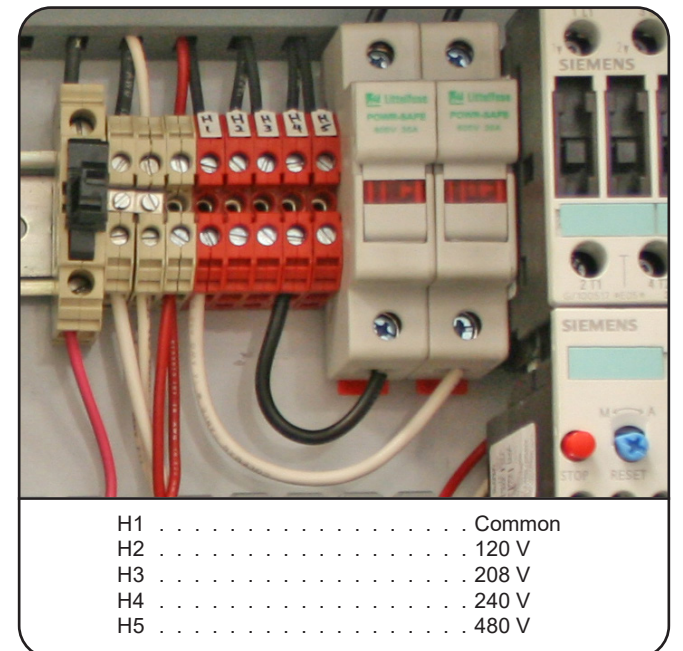

figure 6
5. This unit was factory wired and tested for 240 volts. Check to assure your incoming voltage. Check ID label on door labeled **"This unit was wired for _____"**. If your incoming voltage is other than that listed, locate the black wire on bottom side of the red terminal blocks and move wire to proper terminal. (Fig. 6)